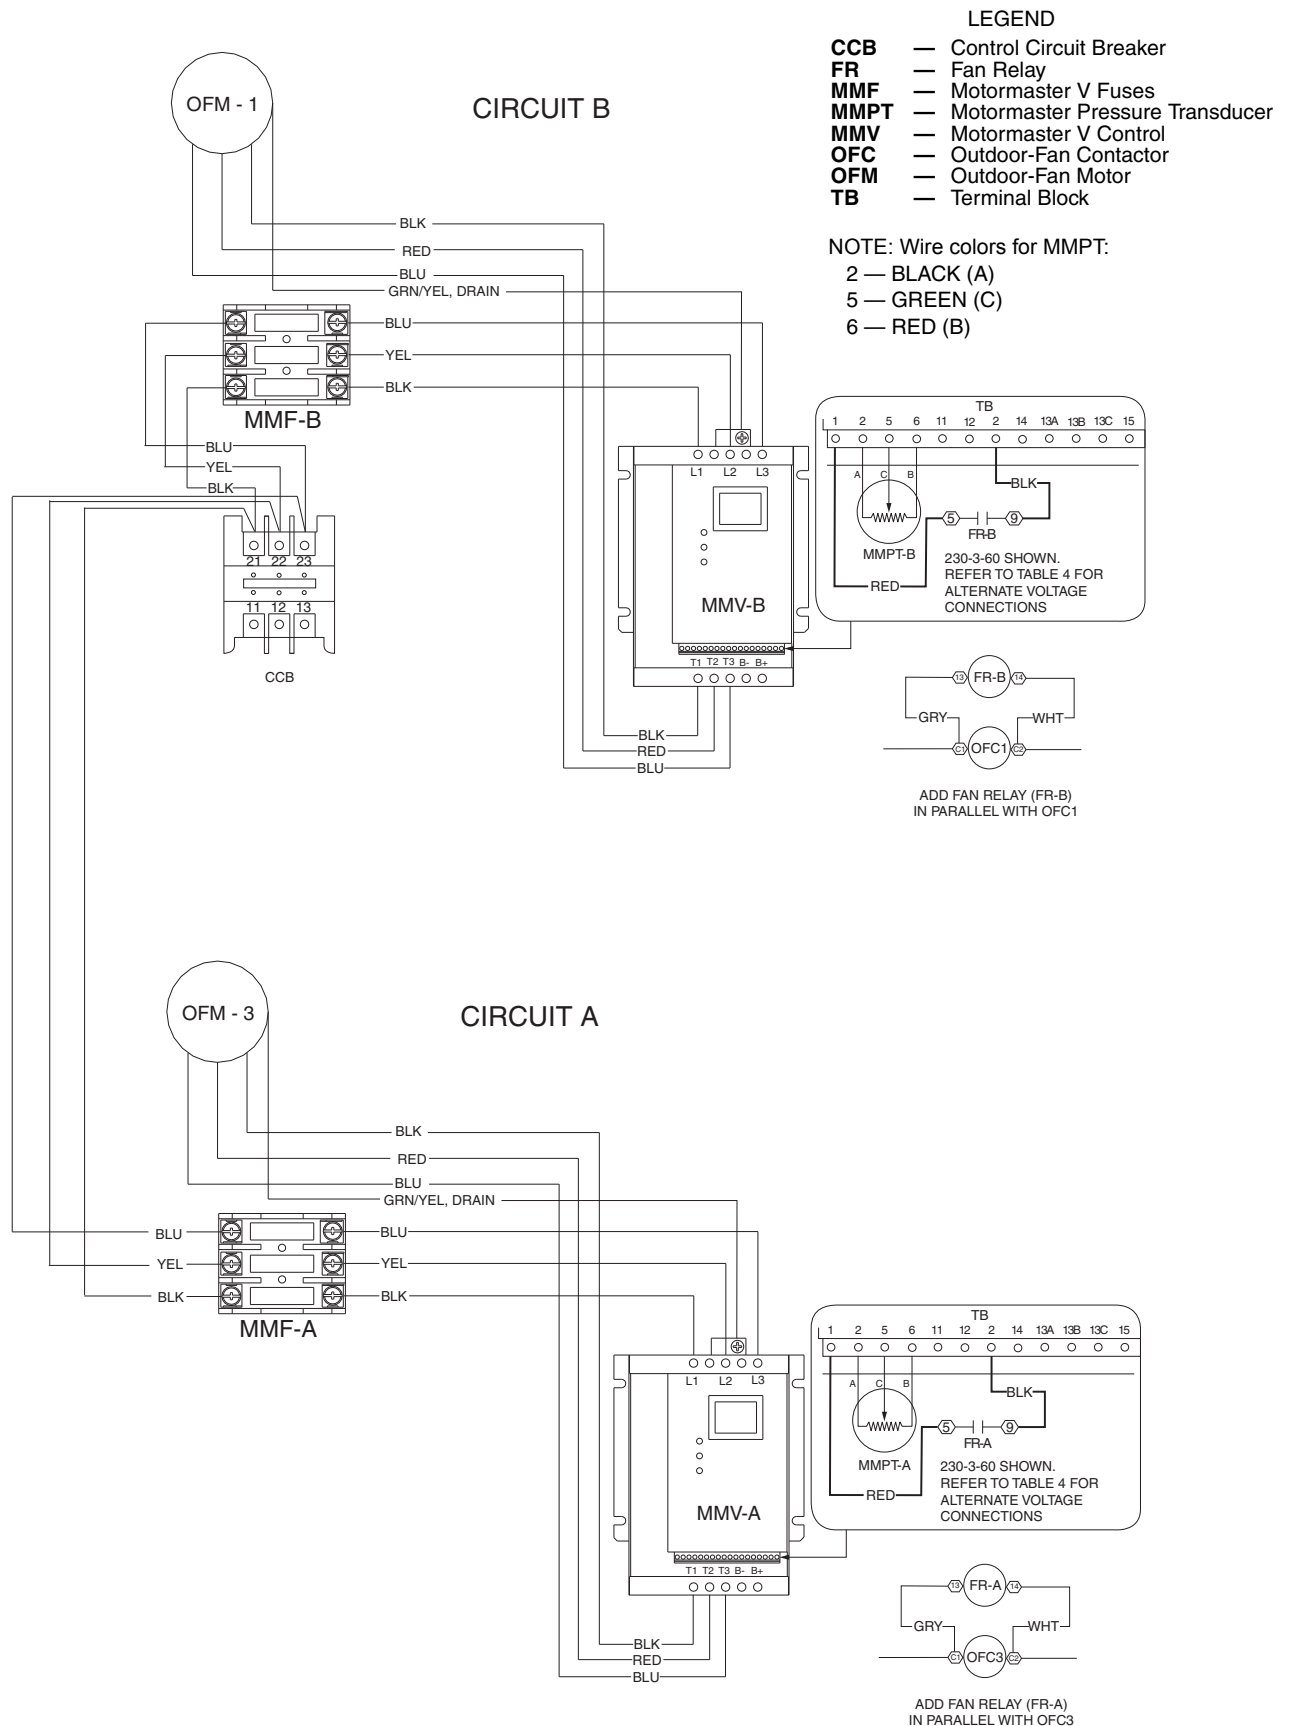

Fig. 10 — Motormaster V Accessory Wiring — 48/50A2,A3,A4,A5060 MCHX Units
- b. Install harnesses 48EJ402454 from load side of CCB (control circuit breaker terminals 21, 22, 23) to line side of MMF-A and MMF-B fuse blocks as shown in Fig. 10. Note that it may be easier to pick up the load side of CCB (control circuit breaker) from the ¼-in. male quick connect terminals on the line side (terminals 11, 12, 13) of the OFCs (outdoor fan contactors). See power schematic on control box door.
- c. Connect FR-A coil to OFC3 coil and FR-B coil to OFC1 coil using the 72 in. long 16 gage white and gray wires (stripped end goes to FR) as shown in Fig. 10.
7. Run MMPT-A cable through ½-in. connector of MMV-A enclosure, and MMPT-B cable through ½-in. connector of MMV-B enclosure (do not tighten connector screws at this time). Connect red, green, and black wires to MMV-A and MMV-B terminals 6, 5, and 2 as shown in Fig. 10. Terminate drain wire of transducer cables under one of the lower MMV mounting screws.
8. Make remaining electrical connections to MMV-A and MMV-B (see Fig. 10).